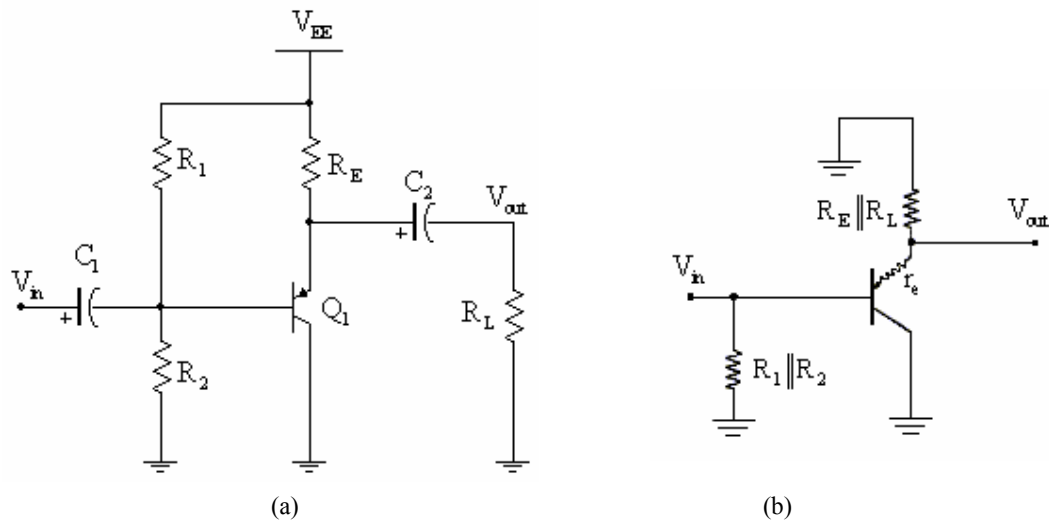

Fig.2: (a) CC Amplifier (b) AC Equivalent Circuit
The AC parameters for the amplifier can now be analyzed. The equivalent AC circuit is illustrated in Figure 2. The analysis steps are:
These formulas were derived for the particular (CC) amplifier shown in Figure 2. You should not assume that these equations are valid for other configurations.